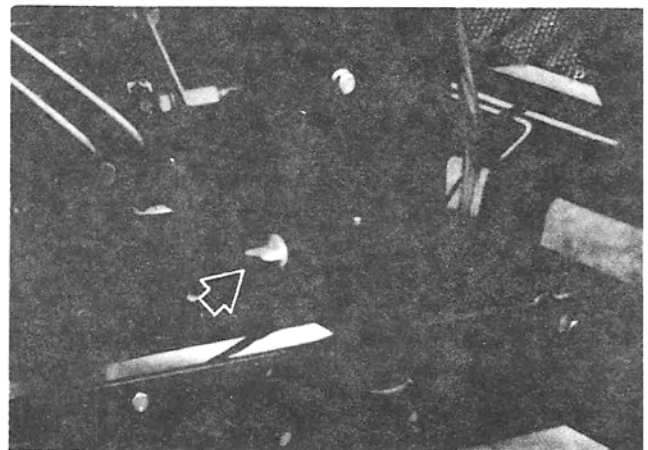
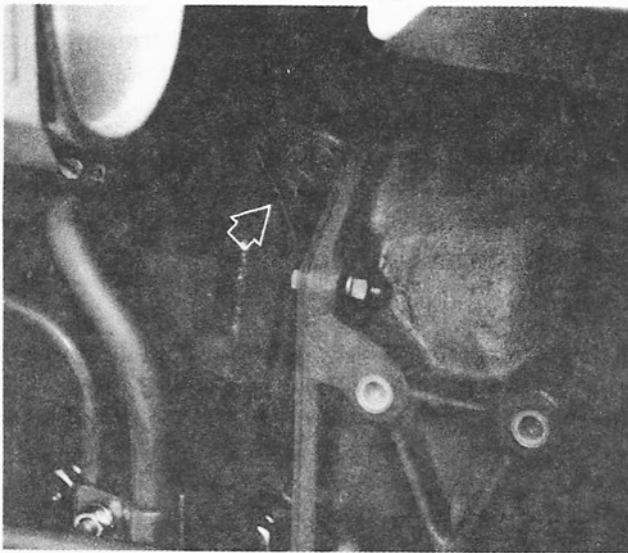

Figure 33 — Radiator Drain Valve
Figure 34 — Engine Block Drain Valve
1. Remove the radiator cap and open the drain valve at both the radiator and the engine block. The radiator drain valve is located on the bottom right side of the radiator (Figure 33). The engine block drain valve is located on the left side of the engine. See Figure 34.